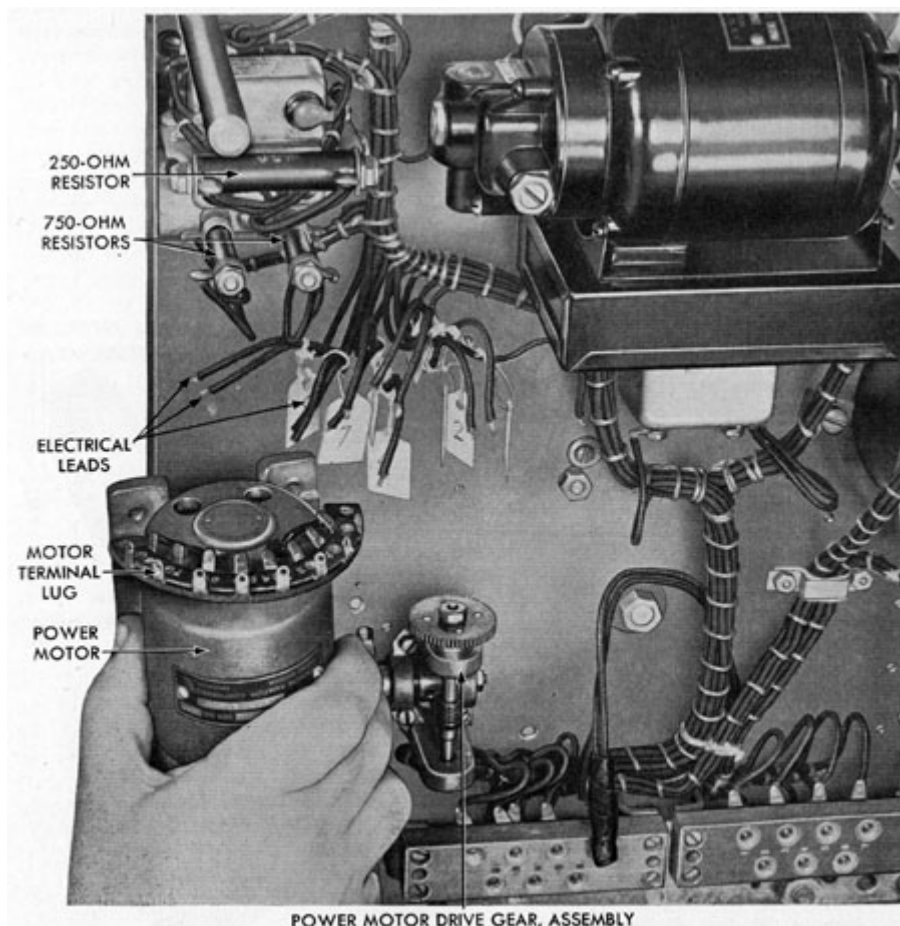

Figure 13-40. Removing power motor.
**13G21. Removing the power motor.** (See Figure 13-40.) Tag the electrical leads to the motor for ready identification. Unsolder the leads from the motor terminal lugs. Remove the four screws that secure the motor to the rear side of the mounting plate, and remove the motor.